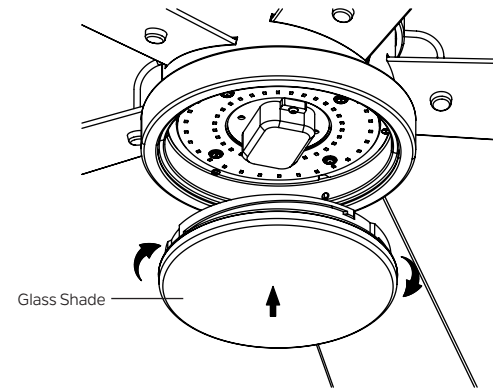

Fig. 22
Step 2. Lift the glass shade up to the light kit, secure the glass shade to light plate. Turning in a clockwise direction, turn the glass shade gradually until it snaps on to the light plate. DO NOT OVER-TIGHTEN. (Fig. 22)